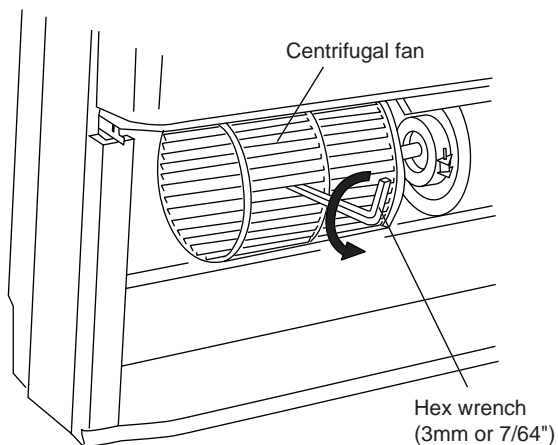

Fig.14
- (3) Insert a hex wrench in the fan boss and turn it counterclockwise to loosen the centrifugal fan. The fan can be removed by sliding it to the left. (Fig. 14)